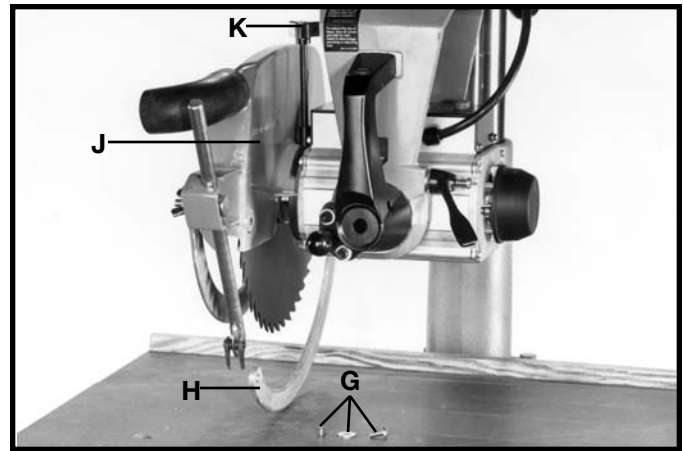

Fig. 31
5. Remove screw, flat washer and spacer (G) Fig. 31, that fasten the front inside leaf guard (H) to front end of blade guard (J). Assemble blade guard (J) to motor assembly with locking rod (K).
6. Reassemble leaf guard (H) Fig. 31, to blade guard (J) using screw, flat washer and spacer (G).